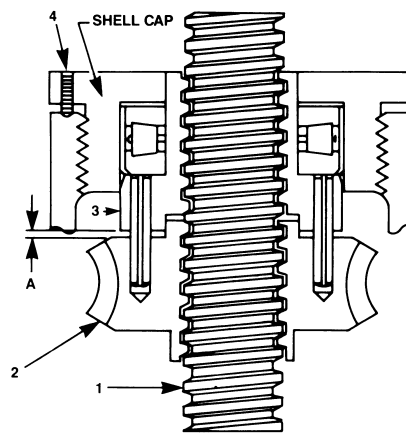

Figure 2-1. Anti-Backlash Nut Adjustment
As shown in Figure 2-1, the worm gear (2) and anti-backlash nut (3) are pinned together with guide pins. The threads in the anti-backlash nut work in opposition to the threads in the worm gear as they